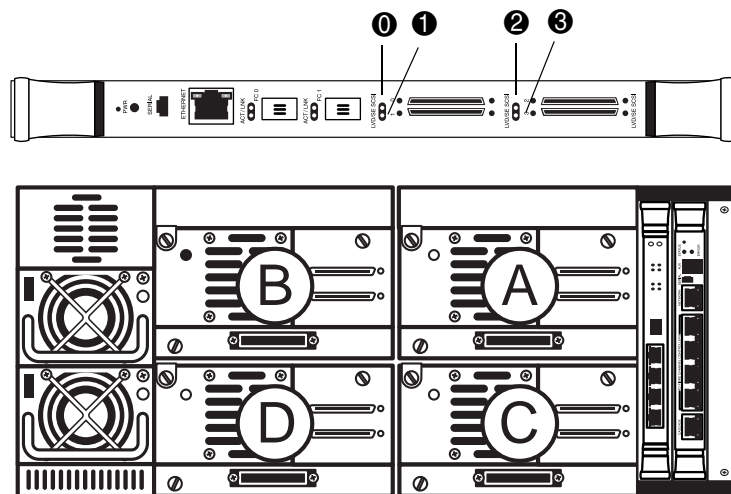

Figure 44: Matching drives and interface controller ports
1. Connect the SCSI cables from the drives in drive cluster 0 to the e2400-160 interface controller in slot 0 of the card cage (see Figure 44).